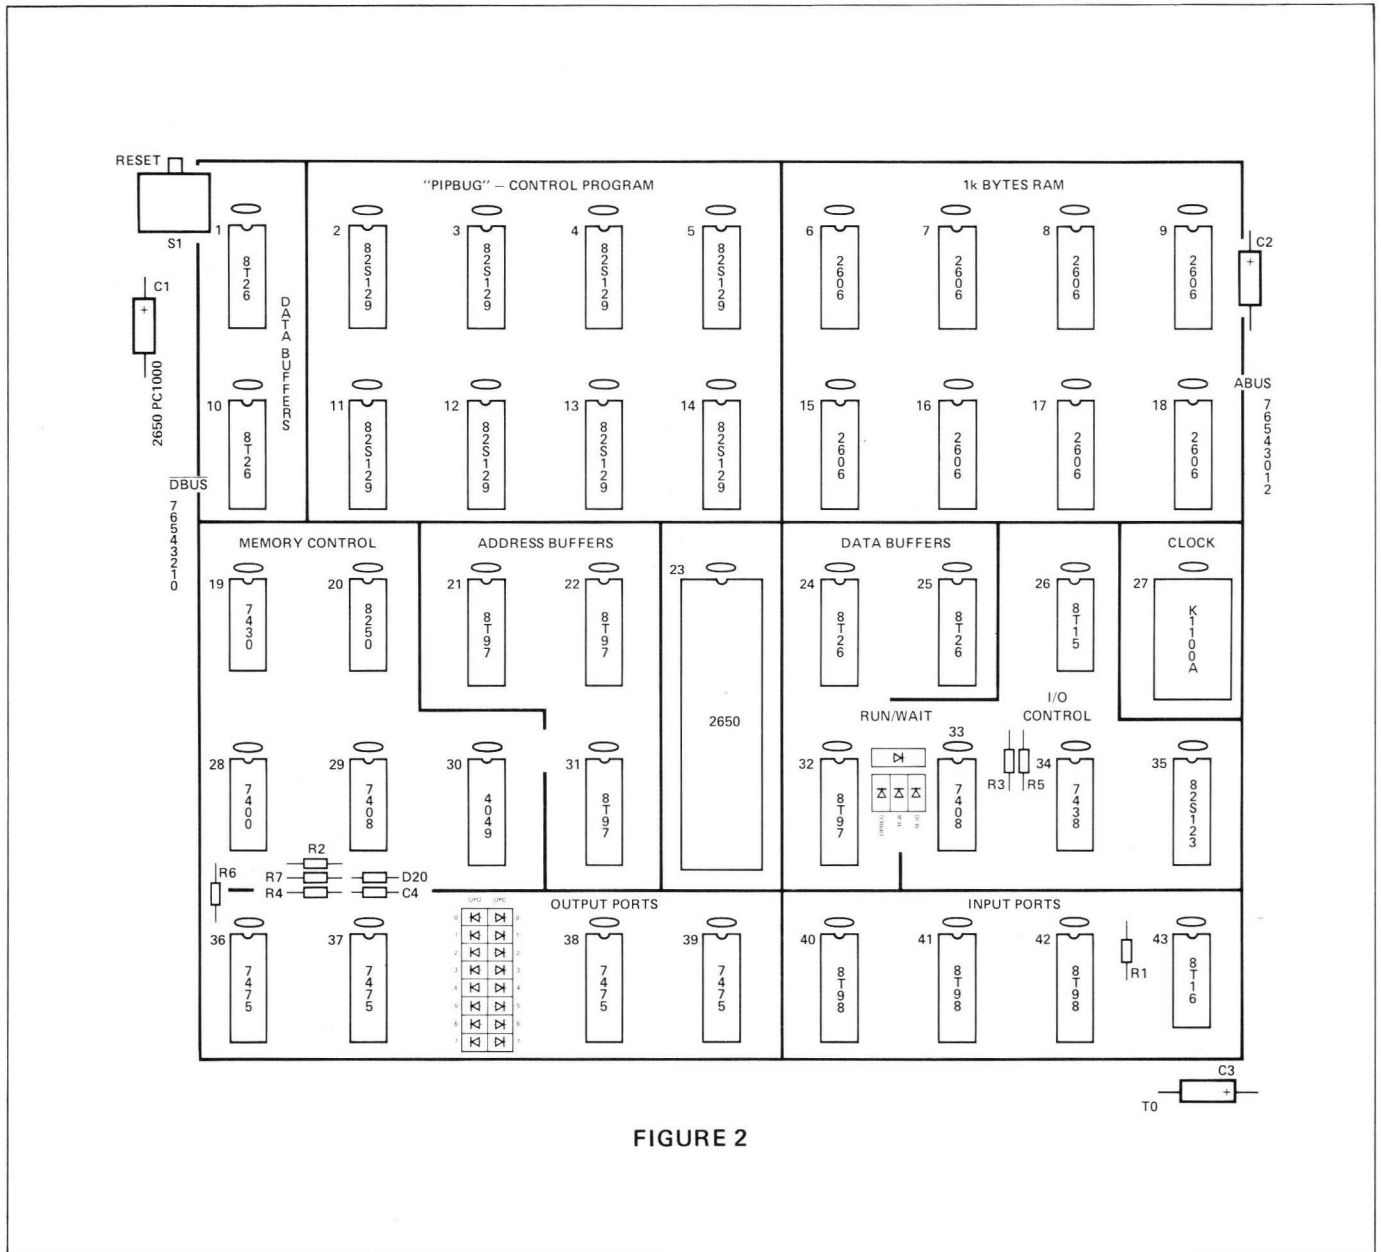
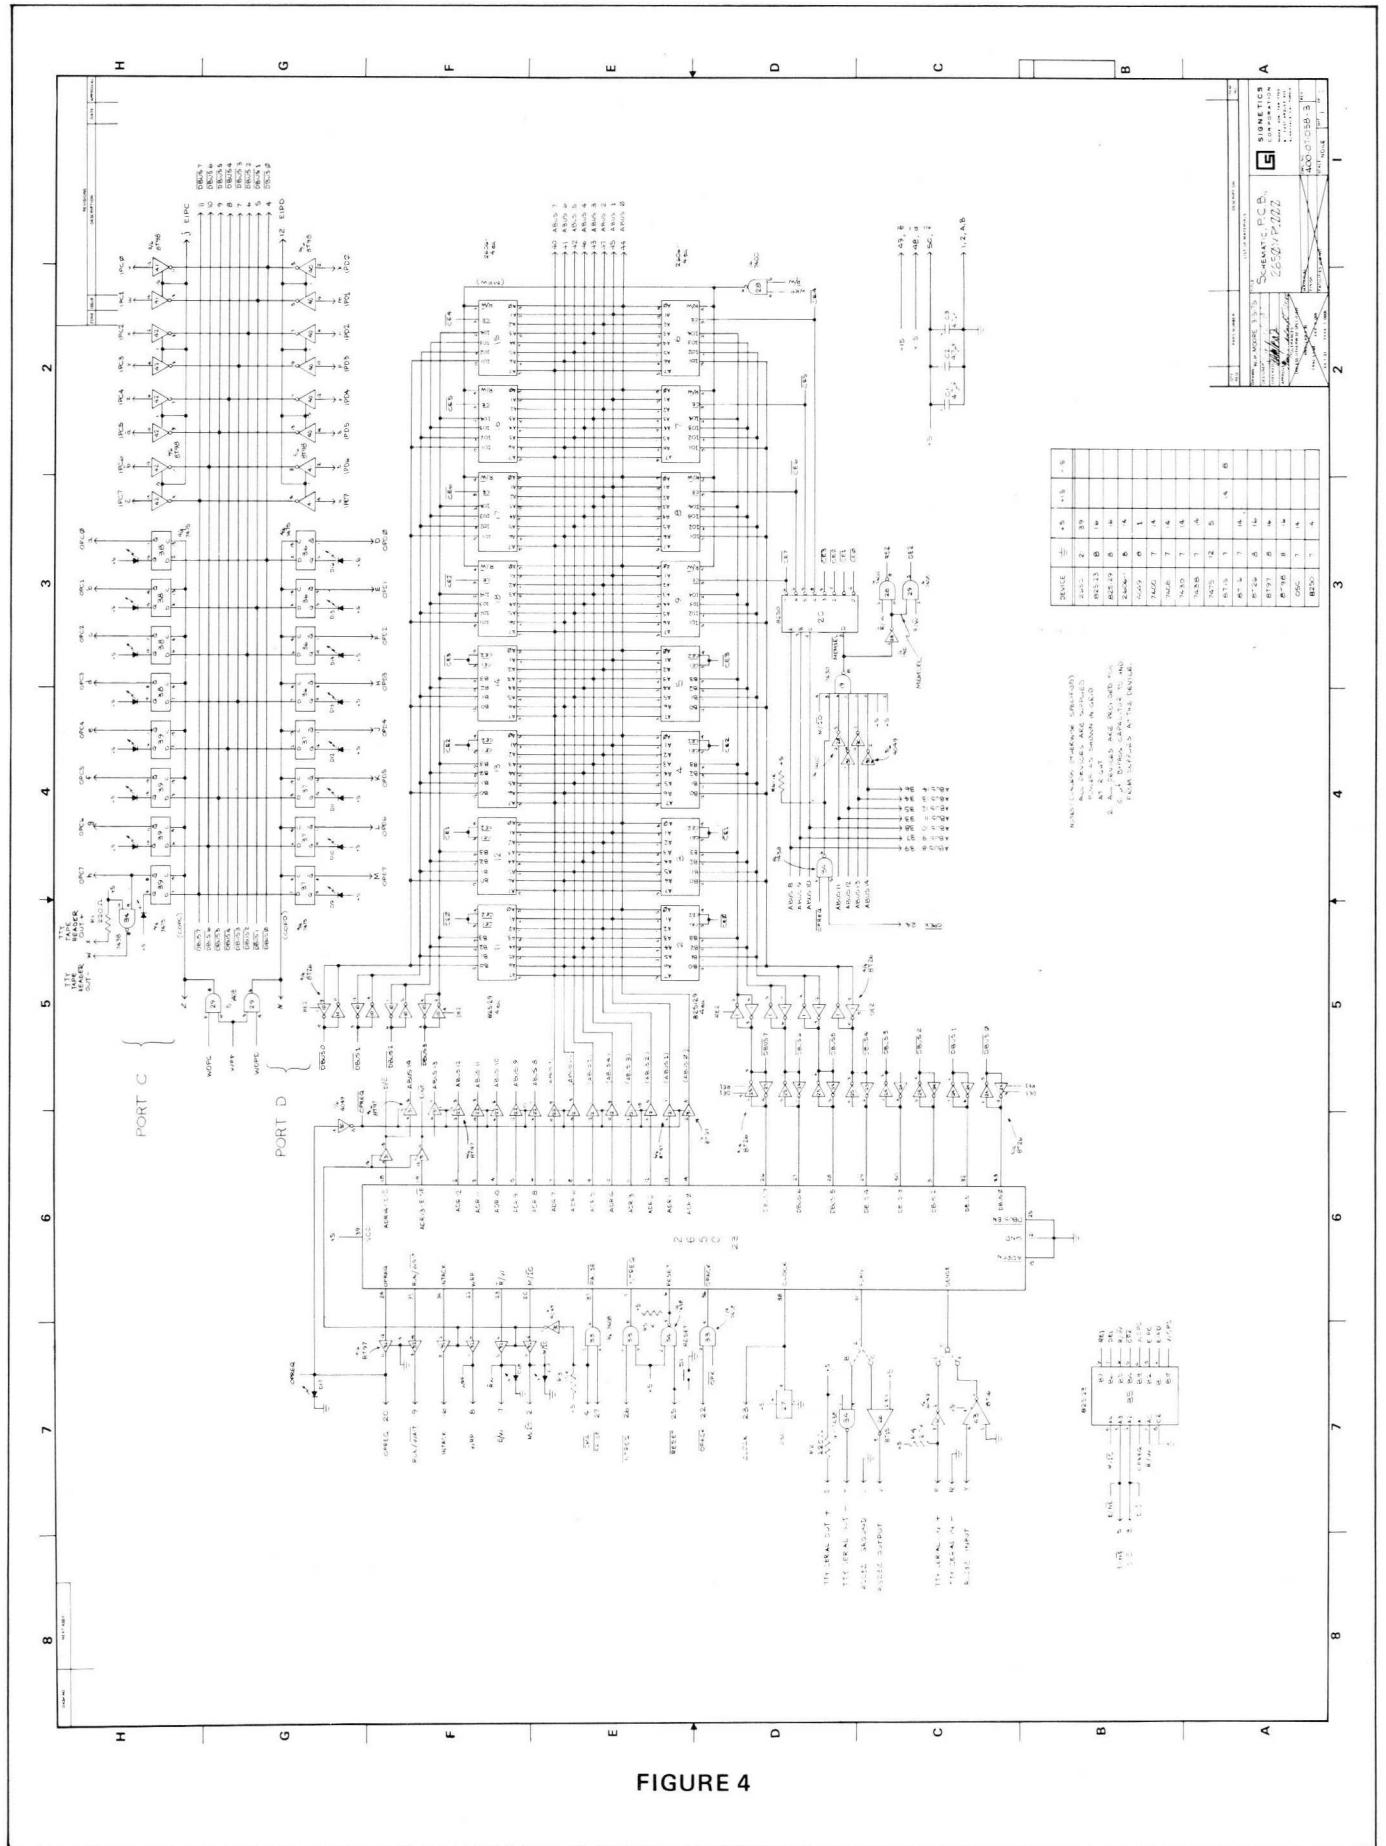

FIGURE 2
FIGURE 4
Minature LED indicator displays are driven by the three basic control lines (OPREQ,  $M/\overline{IO}$ , and  $R/\overline{W}$ ), and the Non-Extended output latches. A logic ONE state on the control lines, or in the output latches, "lights" the corresponding LED. The minature LED's are mounted on the PC1001 board and are shown in Figure 2.
The PC1001 logic drawing will be referred to during this description and is shown in Figure 4. The integrated circuit numbers used in Figure 4 may be cross-correlated to those used on Figure 2 for locating an integrated circuit on the PC1001 board.
The memory on the PC1001 board is buffered from the user's data bus ( $\overline{DBUS0}$  -  $\overline{DBUS7}$ ) with 8T26 quad tri-state transceivers. These transceivers are inverting so that information stored in memory is not complimented relative to the 2650. These transceivers are controlled by RE2 (receiver control) and DE2 (driver control) from the memory select decode logic. The logic for these control lines is shown below IC 20 (IC's 28 and 29) in Figure 4 and they have the following logic equations:
The interrupt request line and the reset line to the 2650 are buffered by TTL AND gates (IC 33). The reset switch on the PC1001 (upper left corner of Figure 2) is "wire ORed" with the  $\overline{RESET}$  line to the PC1001 board (PC1001 pin 25).
A control line decoder is implemented with a 32X8 PROM (82S123) to generate secondary control lines used by the logic supporting the 2650. The primary control lines from the 2650 ( $\overline{R}/W$ , OPREQ,  $M/\overline{IO}$ ,  $E/\overline{NE}$ , and  $D/\overline{C}$ ) are used to address the PROM, and each address represents one combination of the primary control lines. Stored at each memory location are eight bits, each one of which represents the logical state of a secondary control line. There are five address inputs to the PROM, and the 32 (25) possible addresses exhaust all of the logical combination of the primary control lines. The secondary control lines, their logic equations, and their functions are given in Table 1. Table 2 shows the contents of each of the 32 locations of the PROM. The control line decode PROM is shown in Figure 4 (IC 35).
The memory select decode logic is shown in Figure 4 (IC's 19, 20, 28, 29, 30 and 34). The 2k-bytes of memory are implemented with 256X4 bit memory chips. The memory chips are arranged into eight 256-byte sections.